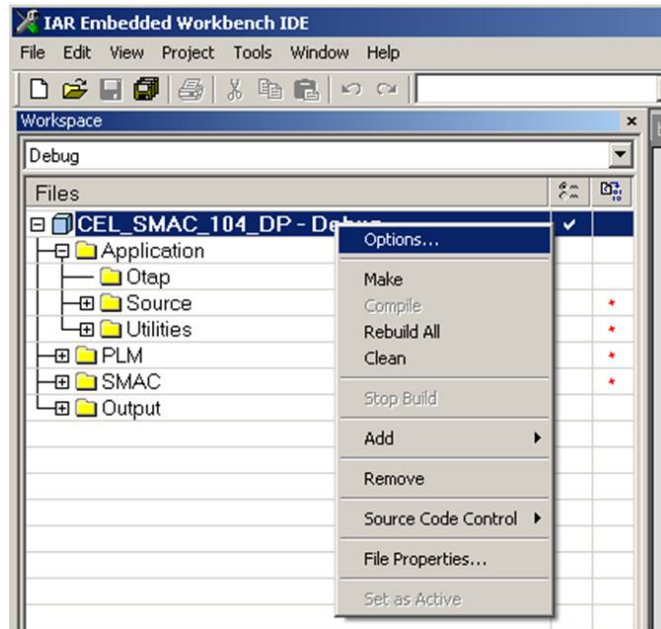

Figure 7 – Screen, IAR Workbench – Project Output Options
- Right click on the project name. In Figure 7 below the project name is 'CEL_SMAC_104_DP'. Select 'Options...' from the drop down Menu List.
- Right click on the project name. In Figure 7 below the project name is 'CEL_SMAC_104_DP'. Select 'Options...' from the Menu List.